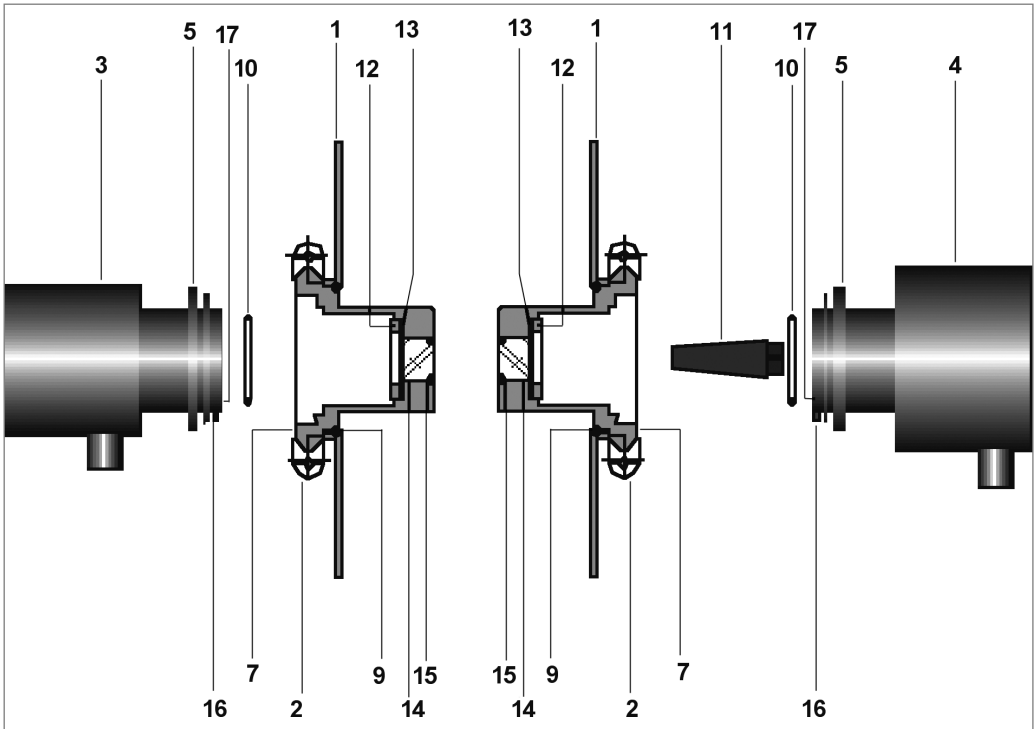

Fig. 2
Insert the OPL bits in the VARINLINE® adapters in the measuring cell and secure them using hinged clamps; tool required: a/f 10 mm open-ended, ring or socket spanner. Make sure that the recesses for the securing pins (Fig. 2, item 16) are facing downwards. This way you ensure that the cable glands will also point downwards once you have fitted the RAMS to the pipe.
- Remove the protective caps from the InPro 8300 RAMS OPL-bits (Fig. 2, item 7).
- Insert a 34.59 × 2.62 mm O-ring into the groove (Fig. 2, 18).
- Take the desiccant capsule out of the tube and place it in the recess (Fig. 2, item 17) in the electronic part. Immediately close the desiccant tube again!
- Fit the electronic part to the VARINLINE® adapter or the OPL bit and use the face spanner to fasten it. The active electronic part (Fig. 2, item 4) has to be mounted at the side with the shorter OPL bit.